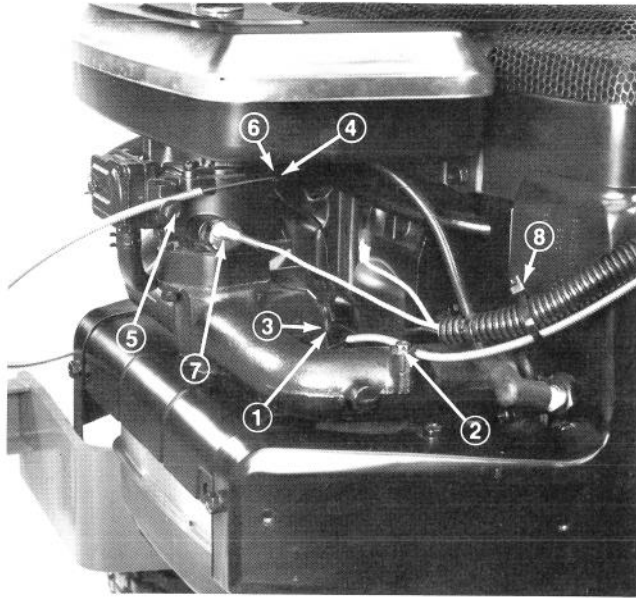
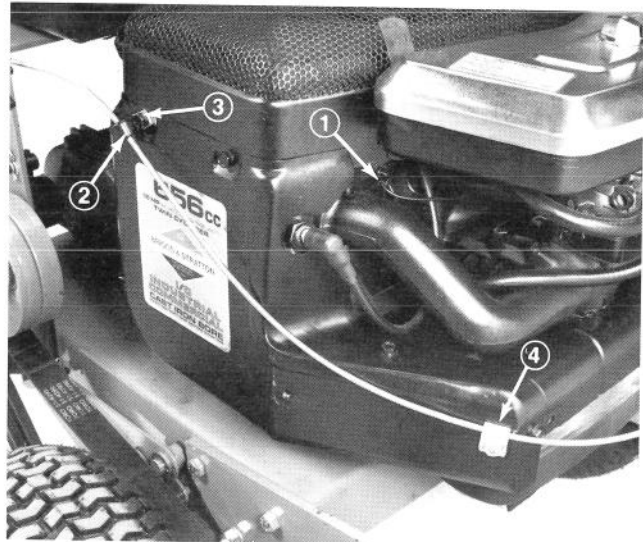

Figure 2
Figure 3
2. Hook wire Z bend of cable in hole of engine throttle lever (Fig. 2).
3. Loosen cable clamping screw allowing cable installation, but do not tighten (Fig. 2).
4. Pull control cable casing to full extent of throttle lever and tighten cable clamping screw (Fig. 2).
2. Hook wire Z bend of cable in bottom hole of engine choke lever (Fig. 2).
4. Pull control cable casing to full extent of choke lever travel and tighten cable clamping screw (Fig. 2).
5. Secure front section of choke cable to engine with casing clamp and 1/4-20 x .75" capscrew. Secure rear of cable to engine with cable clamp, using engine cover mounting bolt (Fig. 3).
1. At front end of wire harness there are (3) wires. Secure (2) short wires to appropriate connectors at left side of carburetor (Fig. 2). Secure third, longer wire to terminal at right side of carburetor (Fig. 3).
6. Secure wire harness to throttle cable with (2) wire ties (Figs. 2 & 4).